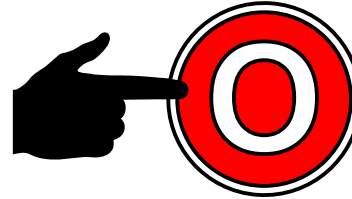

Figure 64. Off Button (Manual Mode)
6. Press the **OFF** button (Figure 64) to shutdown the generator.